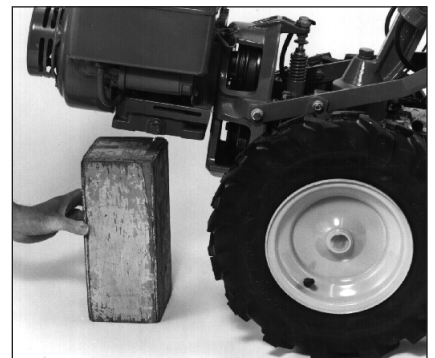

Figure 4-23: Block up engine.
3. Place a sturdy support under the engine to prevent the engine from tipping forward when the tine attachment is removed (Figure 4-23).